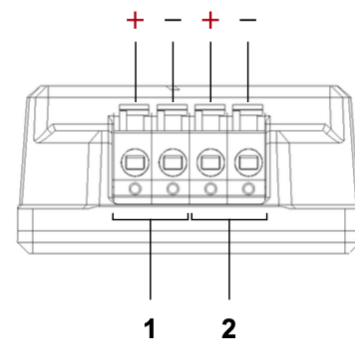

Fig. 2 — Output Wiring Connections
3. Ensure correct polarity for each output connection (V+ to V+, V- to V-) (fig. 2).